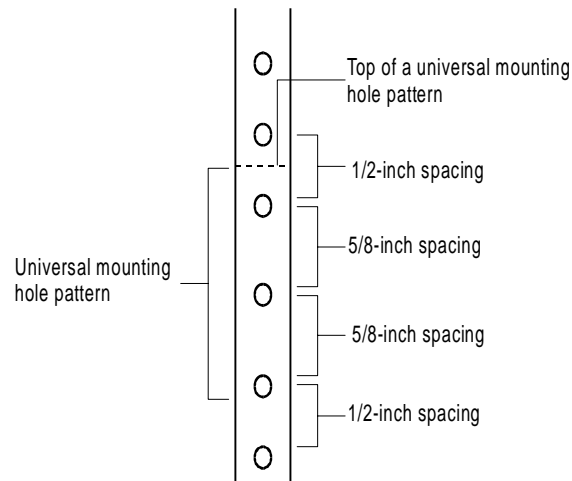

Figure 3-1 Universal Mounting Hole Pattern
- 3 If the holes are not threaded, you must insert "G" clips. To determine where to insert "G" clips, locate the top of a universal mounting hole pattern on the left mounting rail. In the universal rail pattern, the spacing between holes is 1/2 inch, 5/8 inch, 5/8 inch, and 1/2 inch. To find the top of the pattern, locate the midpoint between any two holes that are spaced half an inch apart. Figure 3-1 shows the universal mounting hole pattern.